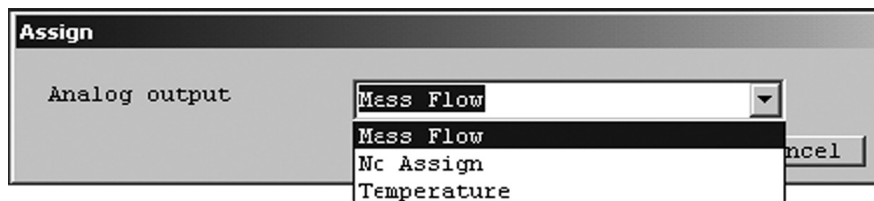

Fig.21
- ③ Assign individual items : click on the arrow mart at right of the field and select your option from the drop-down list as shown in Fig. 21.